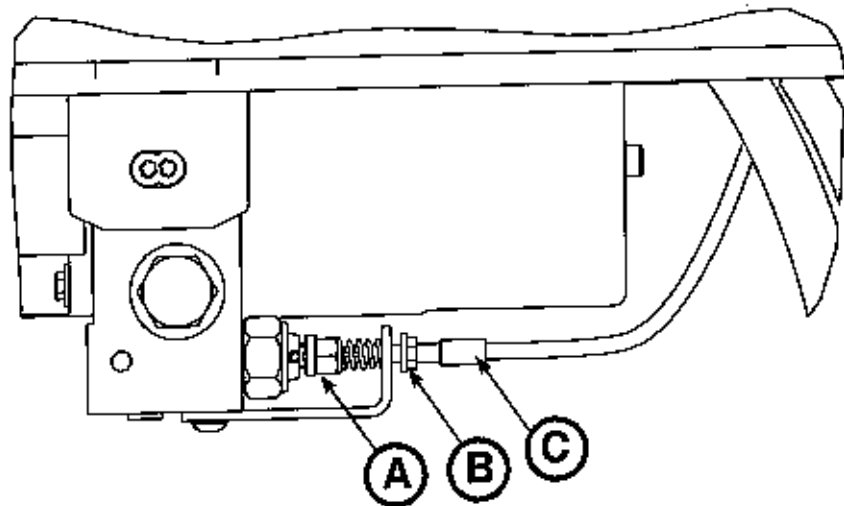

Figure 48
2. Ensure that the manual release cable is intact (A) (Figure 48).
3. Using a 10 mm combination wrench, loosen the cable lock nut (B) (Figure 48).
4. Using a 8 mm combination wrench, adjust the tension on the manual release cable so it just starts to touch the manual release dual pull bracket (C) (Figure 48).